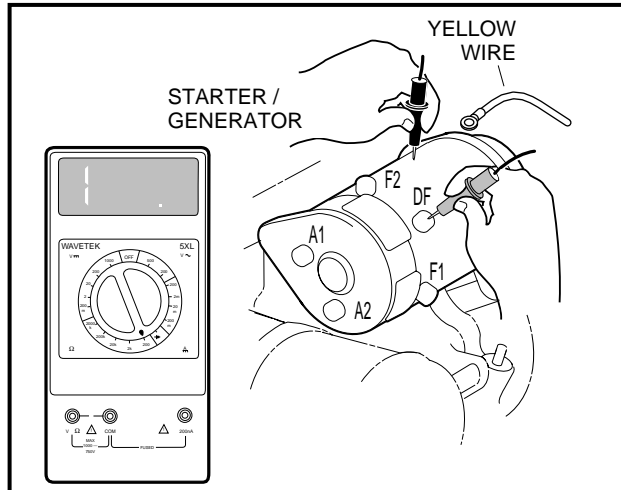

Figure 11-33 Check Starter Terminal Continuity
3. Disconnect the wires from all the terminals on the starter/generator. Then place the black (–) probe of a multimeter, set to Ω (ohms), on the starter/generator housing (scratch through the finish to ensure a good ground). While holding the black probe against the housing, place the red (+) probe (one at a time) on the A1, A2, F1, F2 and DF terminals respectively (**Figure 11-33, Page 11-30**). The readings should be **NO** continuity. If the readings are incorrect, the starter/generator will need to be removed from the vehicle and disassembled by a qualified technician. **See Starter/Generator Removal, Section 12, Page 12-2.**